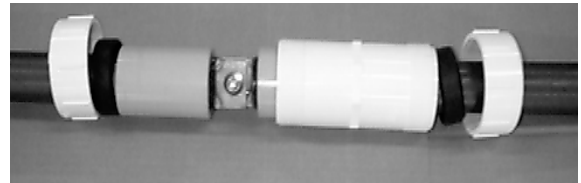

Figure 1
1. Make sure UFSc PN 090001 is on the Electrode before bolting together. (See Figure 1)